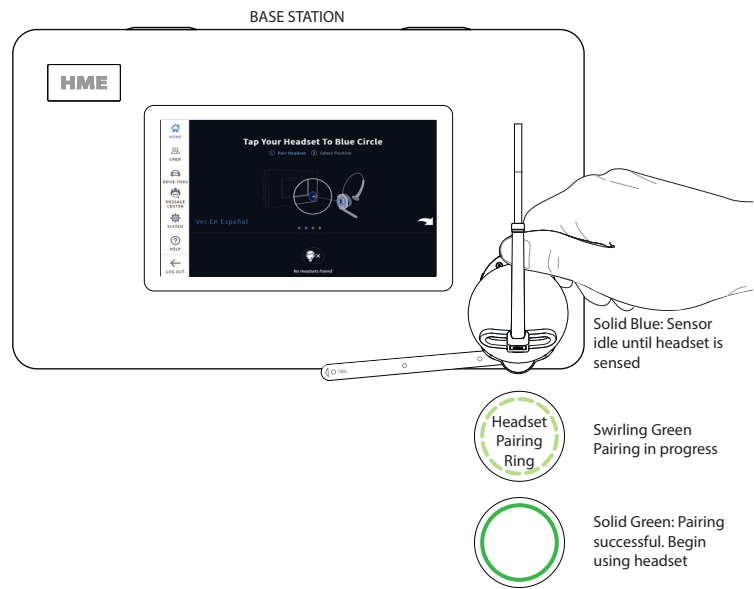

Fig. 6.2
3. Hold the keypad side of the headset against the Headset Pairing Ring (solid blue circle) on the Base Station to pair. Pairing begins automatically as soon as the headset is sensed. The circular blue light turns a swirling green to indicate pairing is in progress (see Fig. 6.2).